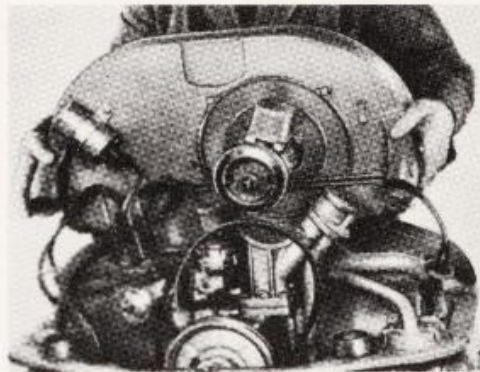

Fig. C-14. With mounting screws, lead wires, hoses and fan belt detached, lift fan housing and generator from engine.
- 6 - Unscrew fan housing mounting screws and lift assembly from engine, Fig. C-14.
- 10 - Service generator as required, then reassemble in fan housing and reinstall assembly in reverse order, Fig. C-14.